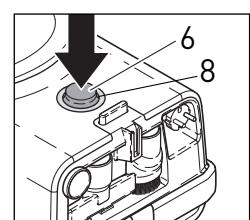

Figure 4
5. If the canister powers up as soon as you plug it in, note that the blue LED light (8) around the on/off button (6) will pick up speed as the suction on the canister increases (figure 4). It will reach full power in a few seconds.